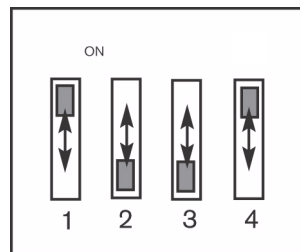

**Fig. 9.1** Control Board Configuration
- Manually unscrew the two (2) thumbscrews on the back of the unit. The control board LED's are located on the control board to the left of the camera. See *Figure 9.1* on page 21, numbers 1-3.